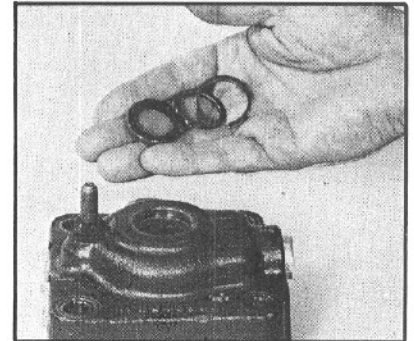

Figure 61
29. Remove the steel backup washer (6), the input shaft seal (7), and the input shaft O-ring (8) from the valve housing (9) (FIG. 61). Discard the seal and O-ring.